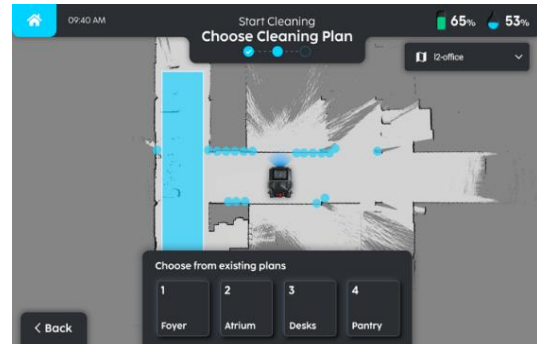

FIGURE 8-11
8. When localization is successful, 'Existing Plans' will appear to allow selection of cleaning plan (Fig. 8-11).